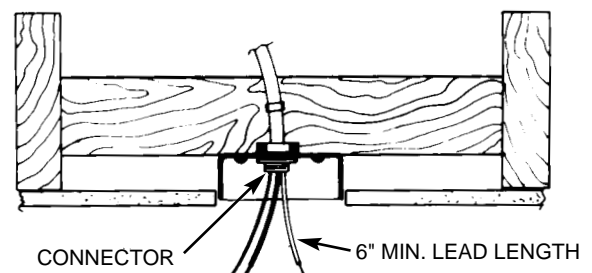

FIGURE 3
B. Bring electrical cable into the outlet box and attach with an approved connector. Make certain that wiring meets all national and local electrical codes. Wire leads should extend at least 6" beyond outlet box for ease in making connections. See Figure 3.